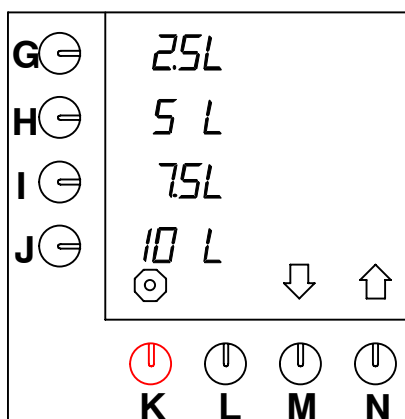

Fig. 33 Default pre-selection keys
The machine is default set to the unit L (= litres). This unit can be changed. (This unit is default on the display with the preference keys (fig.33)).
- Press selection key (N.)↑, until fig.33 appears on the display.